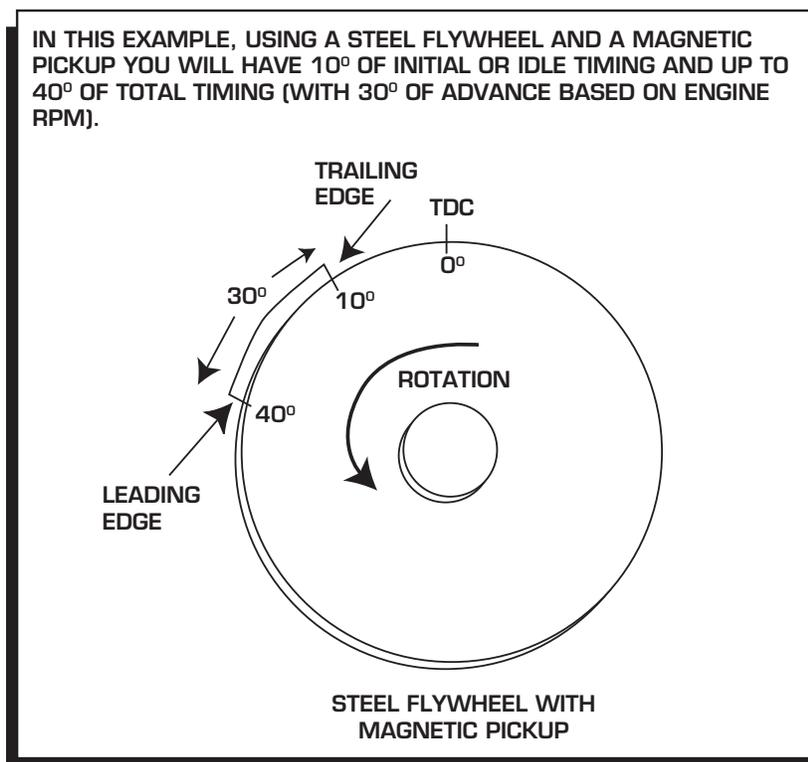

Figure 7 Magnetic Pickup.
**Timing Tab** - This is the tab on the flywheel. A timing tab is primarily used on steel flywheel in combination with a magnetic pickup (Figure 7).
**Tab Width** - This is the amount in crankshaft degrees, that the tab is long. This will control the amount of total advance curve you can achieve. For example, if you have a timing tab that is 30 degrees in length you can program up to a 30 degree curve into the PN 4217 (Figure 7).